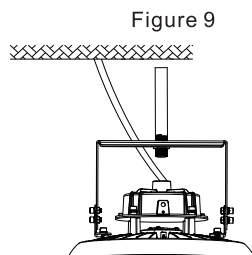

Figure 11
4. After installation, connect the wire of the fixture to the mains according to local wiring rules, ensure the connection is stable and make good protection on the connection. By adjusting the brackets screws, users can adjust 50° to the left or right vertically. (figure 11)